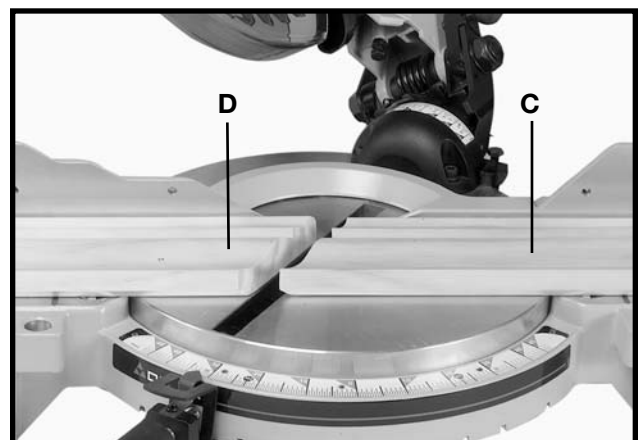

Fig. 42
5. Place the crown molding on the table with the **WALL EDGE** of the crown molding against the fence and make the cut. Again, the piece of crown molding used for the outside corner will always be on the right side of the blade, (C) Fig. 42. The piece of crown molding used for the inside corner will always be on the left side of the blade (D) Fig. 42